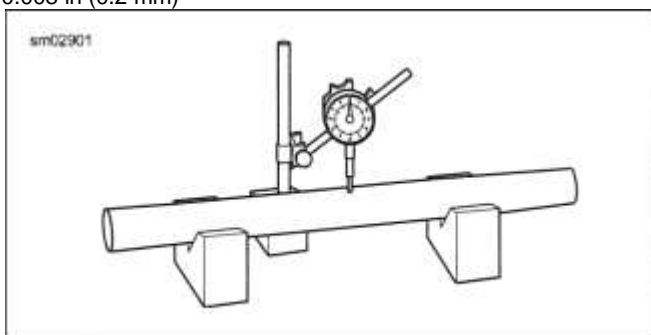

Figure 3-69. Measure Fork Tube Runout
6. See Figure 3-69. Check runout with a dial indicator.